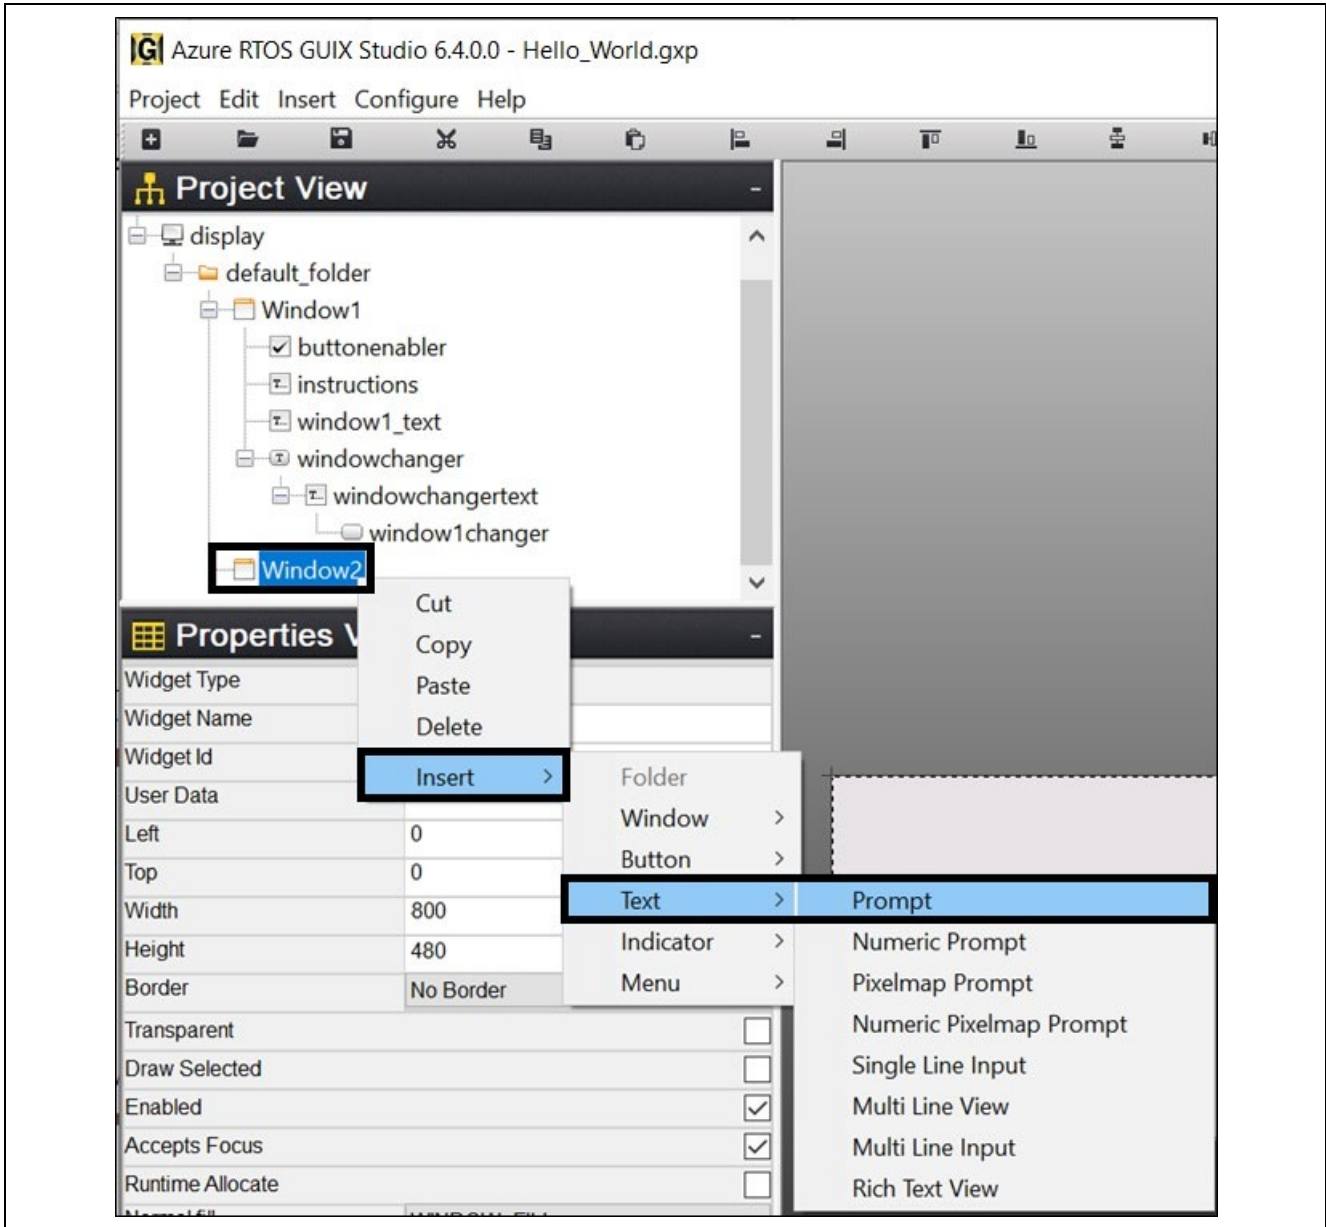

Figure 63. Insert Prompt for Window2
26. Insert **Prompt** for Window2. Right click from **Window2**. **Insert > Text > Prompt** follow **Figure 63**.